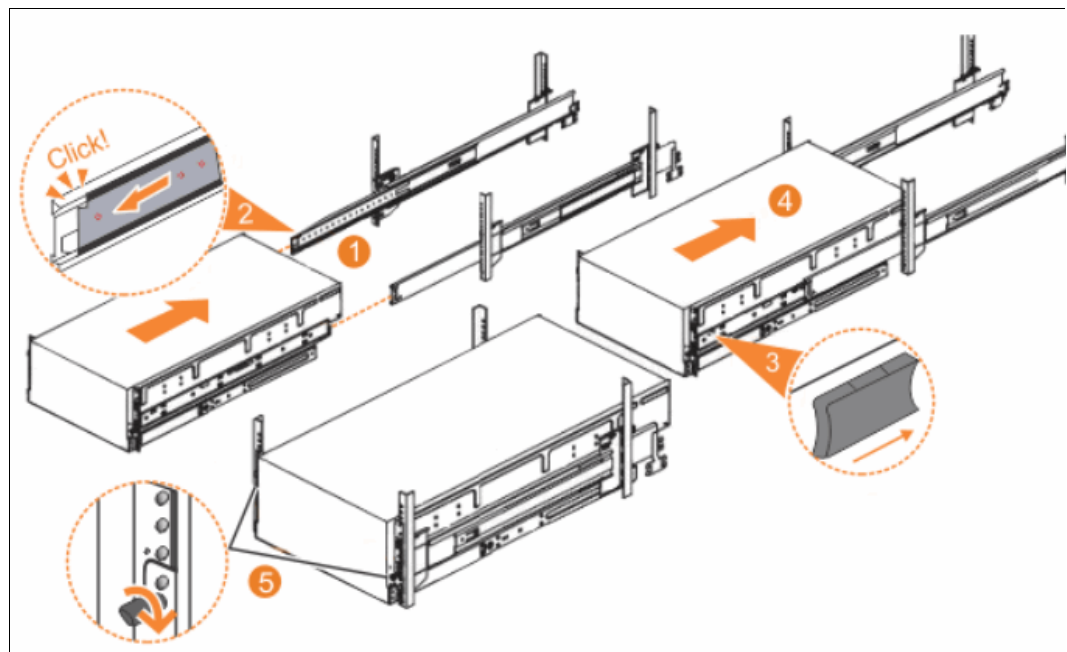

Figure 6-13 Installing the model A9F expansion enclosure in the rack
1. Fully extend the left and right drawer sections from the rack to lock the rails in the extended position. See 1 in Figure 6-13.
2. Ensure that the ball bearing retainer clicks into place inside the front of the left and right drawer sections. See [2] in Figure 6-13.